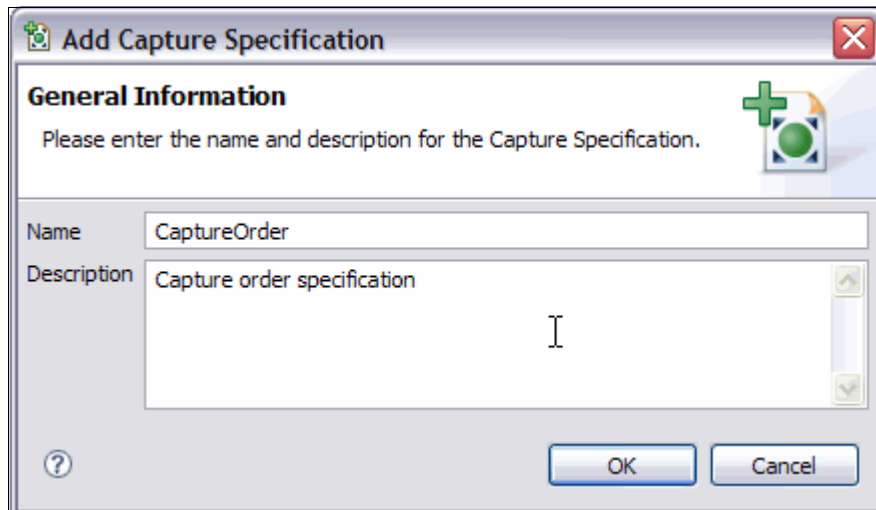

Figure 5-49 Capture Order specification
4. Click **Add a Capture Specification**. In the “Add Capture Specification” window (Figure 5-49 on page 133), enter the following values: